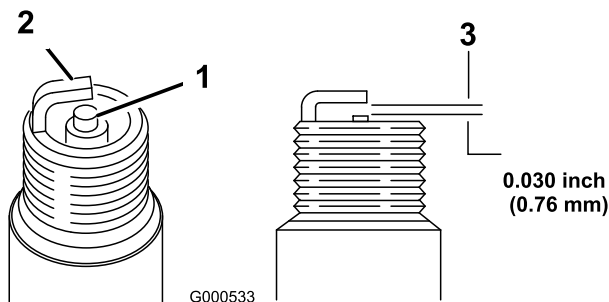

Figure 21
5. Set the gap on the plug to 0.76 mm (0.030 inch); refer to Figure 21.